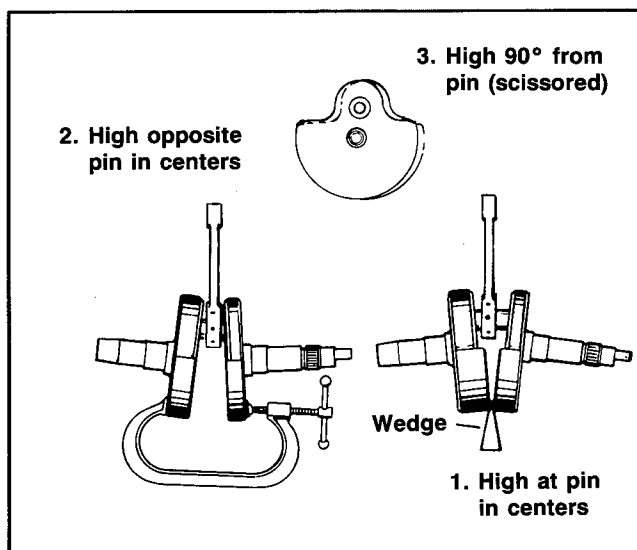

Figure 7-19 – Correcting Crankshaft Misalignment
- See Figure 7-19. Shafts must run true within .002 in. on fan side and .002 in. on transmission side. Correct flywheel alignment as follows: